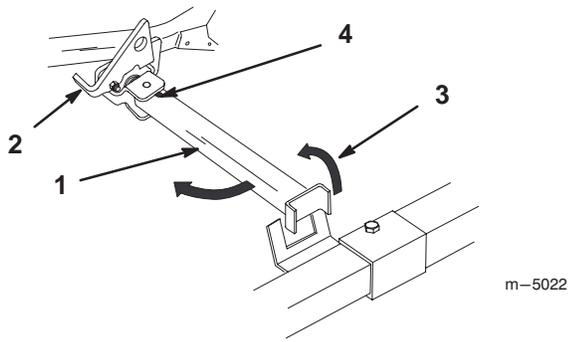

Figure 27
2. Raise latch. Lift stand foot and twist out of its rest position (Fig. 27).
4. Return stand to its rest position (Fig. 27).